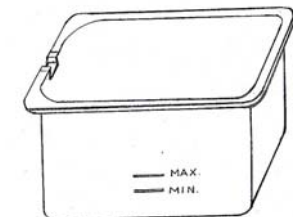

Fig. 2
- The oil level must always be maintained between the minimum (11.5 cups/2.75 liters) and the maximum (14 cups/3.5 liters) levels marked inside the oil container. Check the oil level before each use. For best results, keep the oil close to the maximum level (14 cups/3.5 liters). (Fig. 2)